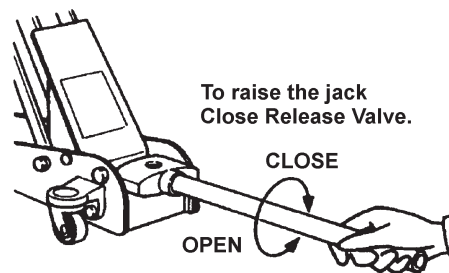

Fig.3 To lower the jack Open Release Valve
5.1.4 Turn the release valve clockwise, to the closed position (Fig.3). **DO NOT** over tighten.